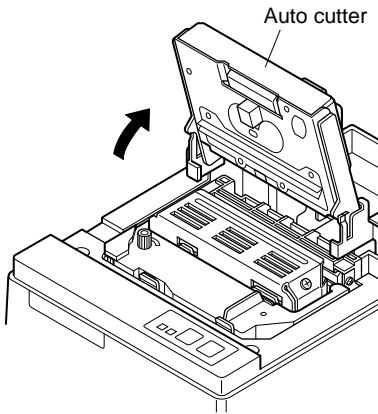

Fig. 4-9 Raise the auto cutter
- 3 Lift up the auto cutter and put it in a vertical position, as shown in Fig. 4-9.